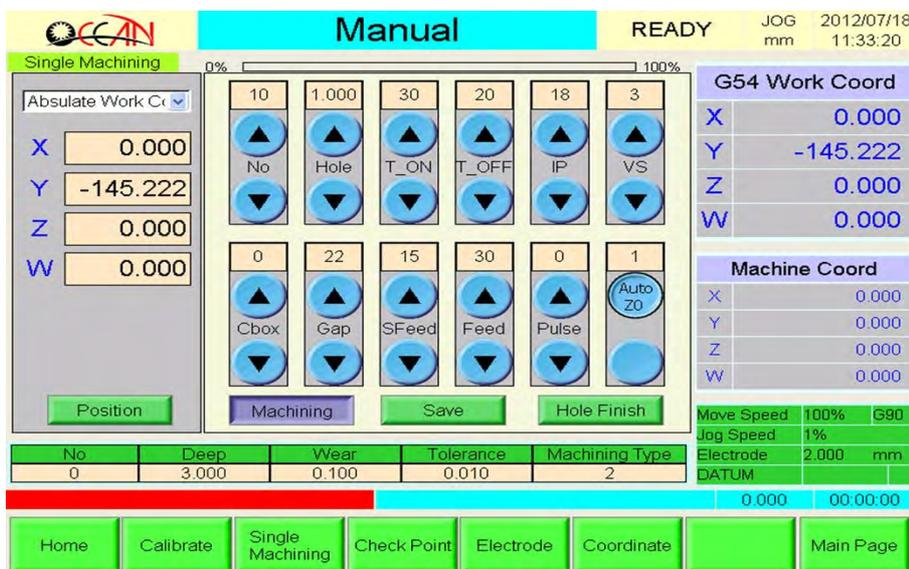

Figure 4-3-8 Position Screen
**Position function** provide the operator to quickly move the electrode to set coordinates point(It can be set for work coordinates., mechanics coordinates or relative coordinates.)Respectively to set the X, Y, Z and W-axis moves the location or distance, the operation screen as shown in Figure 4-3-8.
Please move the electrode to the position above the check point. Then press **Teach In**. In this moment, system copy the machine coordinates to the Set Check Pt window as figure 4-3-8. Double click to enter the value of the field can be used to enter the setting. Setting value set to check point coord, you can use the **System Param** of the screen to look up the setting value if set these coordinates to check point. If operator wants to save the check point coordinate, please press **Save**; If no save, it recover to original value after rebooting up.